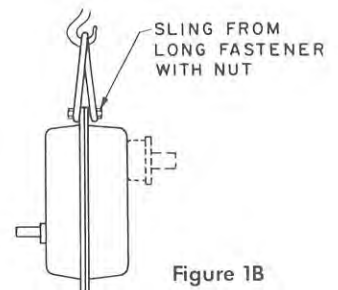
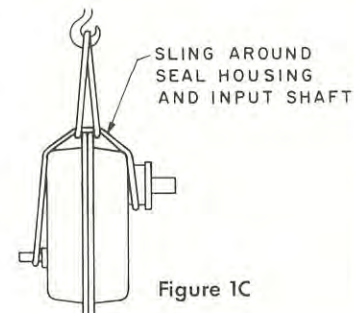

Figure 1B
Figure 1C
**Horizontal Flange Mounted Drives:** Remove a housing flange fastener and install a long fastener with nut. Sling the drive from both ends of the fastener as shown in Figure 1B. When drive is in its final position, replace the housing flange fastener and torque to value specified in Table 1.
**Horizontal Drives:** To lift the basic drive, remove a housing flange fastener and install a long fastener with nut. Sling the drive from both ends of the fastener as shown in Figure 1B. When the drive is in its final position, replace the housing flange fastener and torque to value specified in Table 1. After assembly of the seal housing, the drive may be lifted by means of a sling around the seal housing and the high speed shaft as shown in Figure 1C.